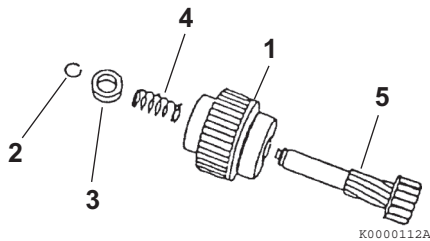

Figure 11-27
1. Apply the appropriate starter bendix grease (obtain locally) to the pinion shaft. Reassemble the pinion shaft (Figure 11-27, (5)), pinion clutch assembly (Figure 11-27, (1)), return spring (Figure 11-27, (4)) and pinion stop (Figure 11-27, (3)). Reinstall the retaining ring (Figure 11-27, (2)) in the groove in the pinion shaft. Slide the piston stop over the retaining ring.